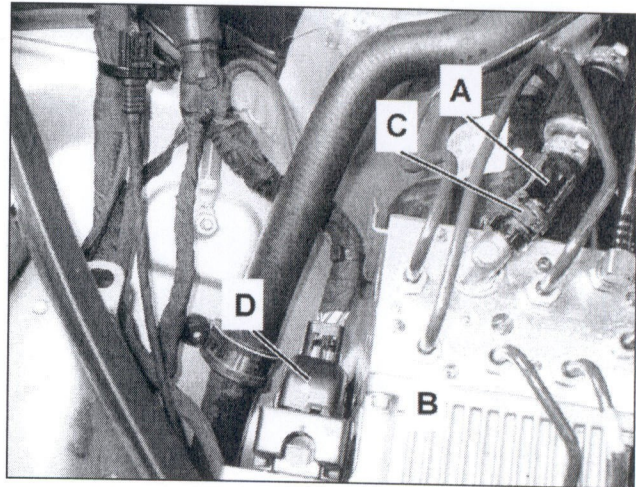

Figure 22
25. Install new SBC hydraulic unit (B, Figure 22) into SBC body mounting grommets.
26. Connect hydraulic lines and SBC suction hose (A, Figure 22) to SBC hydraulic unit (B); refer also to WIS: AR42.46-P-0010R steps 15 - 21.
28. Connect the SBC wire harness connector (D, Figure 22) to the SBC hydraulic unit (B) and secure by engaging locking mechanism.